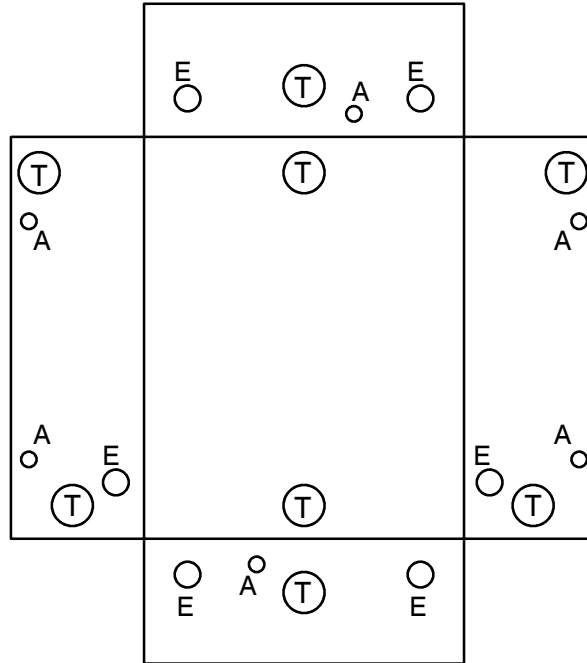

Figure 21. Knockout Pattern for Remote Battery Disconnect
- The knockout pattern for conduit is shown in Figure 21. If a larger size conduit is required, the contractor may enlarge knockouts at your site during installation.